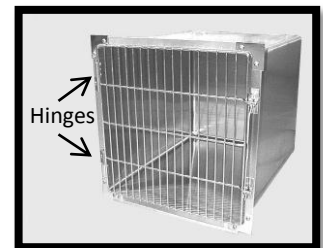

Figure 2: Hinges on Regal Cage
1. With a ¼ in. or smaller punch and a small hammer, remove both hinge pins from the cage door (Figures 2 and 3).